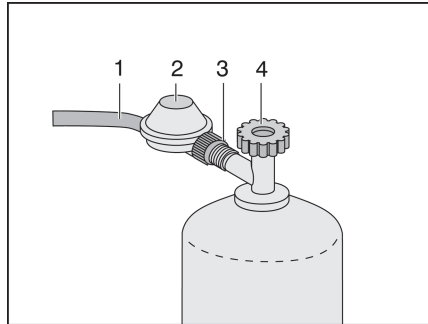

Fig. 34 Gas bottle connection
- ▶ Only use special gas pressure regulators (Fig. 34,2) with a safety valve for use in vehicles (included with new vehicles).
- Close the regulator tap (Fig. 34,4) on the gas bottle. Pay attention to the direction of the arrow.
- Hold the gas pressure regulator (Fig. 34,2) and open the knurled nut (Fig. 34,3) (left-handed thread).
- Remove the gas pressure regulator and the gas tube (Fig. 34,1) from the gas bottle.
- Position the gas pressure regulator (Fig. 34,2) and the gas tube (Fig. 34,1) on the gas bottle and tighten the knurled nut (Fig. 34,3) by hand (left-handed thread).